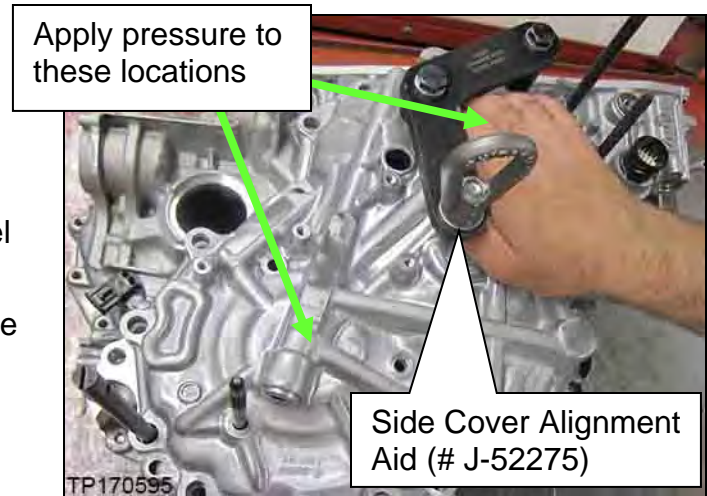

Figure 17F
10. Remove the Side Cover Alignment Aid (# J-52275) shown in Figure 17F.